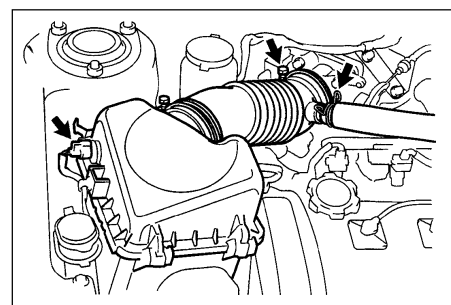

Figure 1-5
4. Remove the air filter assembly with hose (see Figure 1-5).